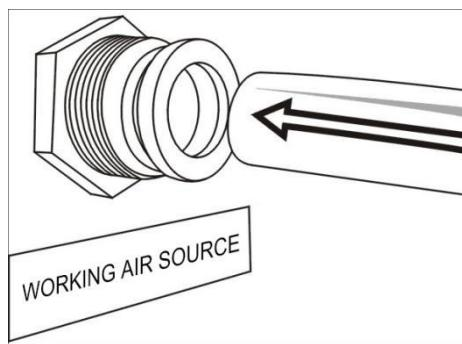

Figure 4 Pipeline Connection
- ① Start switch with indicator light
- ② Touch screen
- ③ Emergency stop switch
6.2 Connect the working air source pipe. The air source connections of the equipment are located at the rear side of the equipment (see Figure 4).